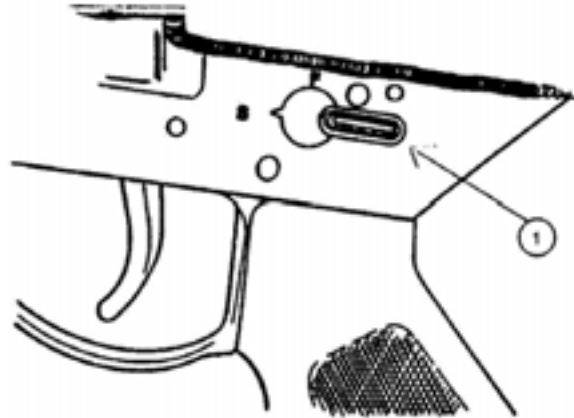

Figure 1-12. Thumb Safety Lever
1.3.10 SAFETY MECHANISM. There is a single thumb-lever (1), Figure 1-12, which prohibits the rifle from firing by blocking the trigger from rotating up, effectively preventing it from rotating the transfer bar on to the sear.